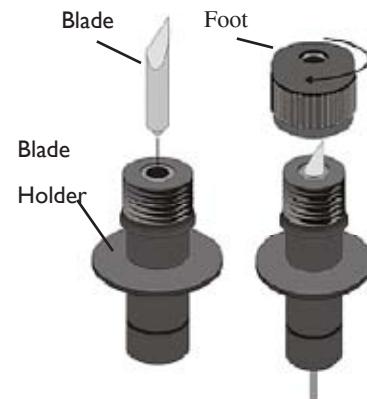

Figure 12. Installing the blade in the blade holder.
2. Unscrew the foot (**Figure 12**) from the blade holder.